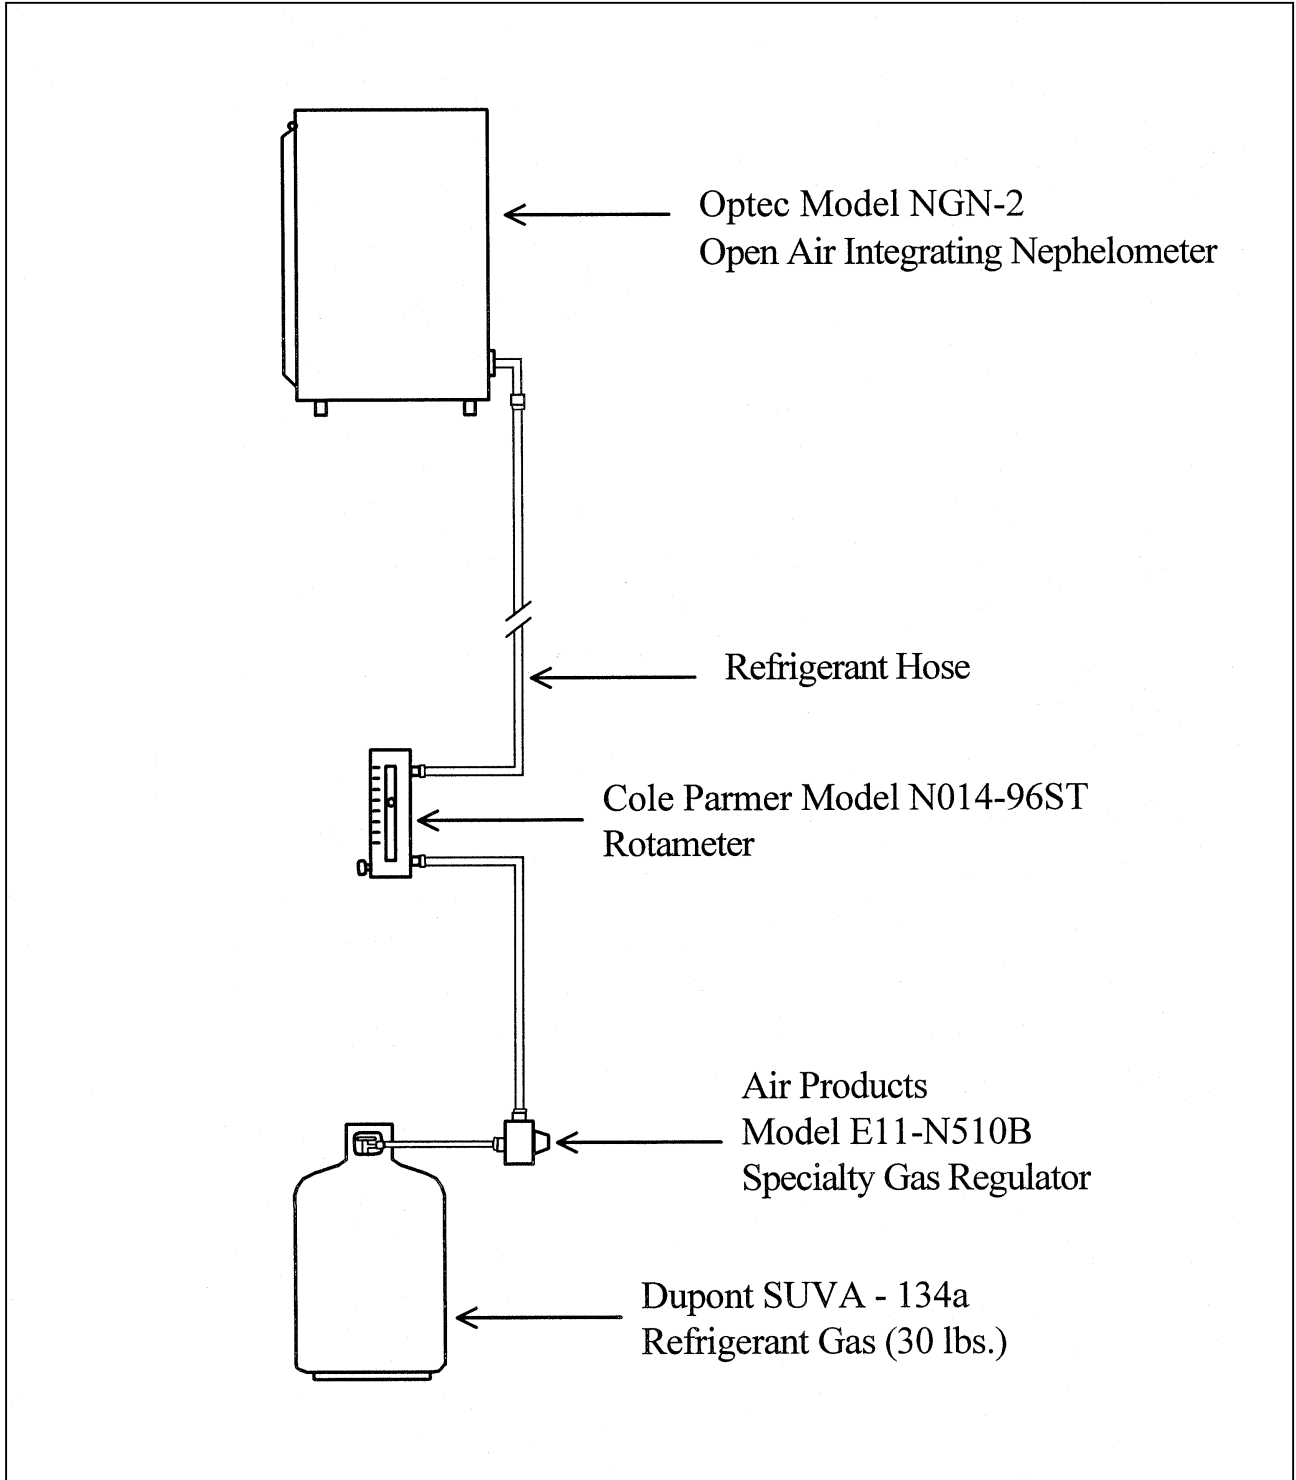

Figure 3-1. Manual Span Gas Calibration/Audit Configuration for the Optec NGN-2 Nephelometer.
- Calibration gas hoses and fittings to connect the tank, regulator, rotameter, and nephelometer (see Figure 3-1). The hoses must be compatible with SUVA-134a.